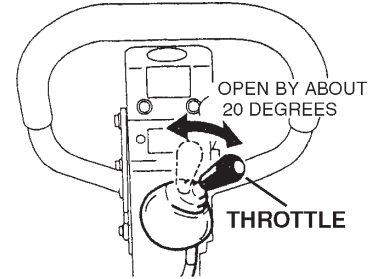

Figure 10. Throttle Lever (Start Position)
2. Move the throttle lever to the **START** position by opening it to about 20 degrees (Figure 10).
- Return the throttle lever to the **START** position (Figure 10). Allow the machine to cool down for 2 to 3 minutes.